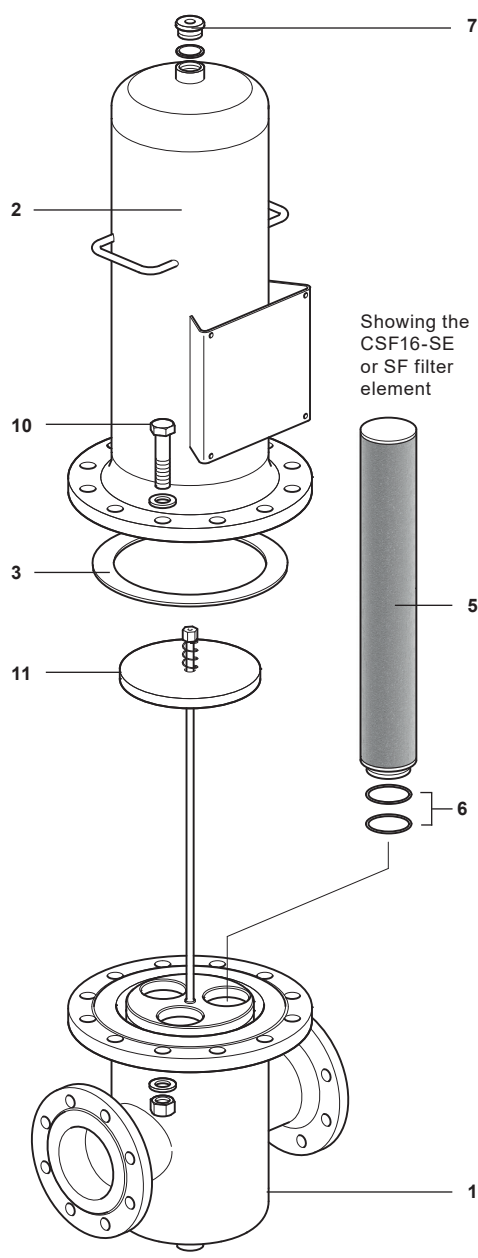

Fig. 8
2. The housing ring (4) or housing bolts (10) holding together the filter housing head (2) and the filter housing bowl (1) should be unscrewed using the appropriate spanner. The filter housing head (2) can then be removed.
3. The filter element seals (2 off, item 6) should then be lubricated using a lubricant suitable for the application, before fitting to the filter housing bowl (1).
4. The filter element (5 - please note that there are multiple elements for the larger sizes) needs to be gently pushed into the filter housing bowl (1).
5. **When multiple elements are fitted**, the filter support assembly (11) must be assembled and fitted as shown in Fig. 8.
6. Ensure the filter housing seal (3) is fitted.
7. **For sizes DN8 to DN80:** The housing ring (4) should then be carefully placed into the seating land on the filter housing head (2), before then gently lowering the filter housing bowl (1) over the filter element and tightening the housing ring (4). The housing ring (4) is designed with a coarse thread to minimise the possibility of galling. Thread lubrication is not normally necessary. However, a thread lubricant may be used if required.
- For sizes DN100 and DN150:** Gently lower the housing head (2) over the filter elements and place it onto the housing bowl (1). Tighten the housing bolts to the recommended torque - See Table 1.